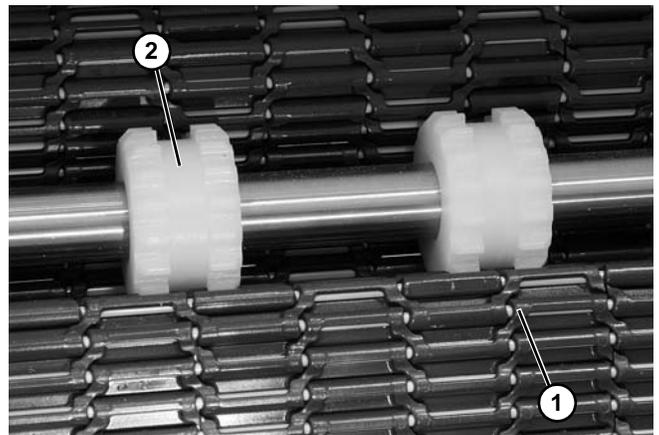

Figure 71
6. Raise belt (**Figure 71, item 1**) into position. Move drive sprockets (**Figure 71, item 2**) so that the teeth line up with the belt, as shown.